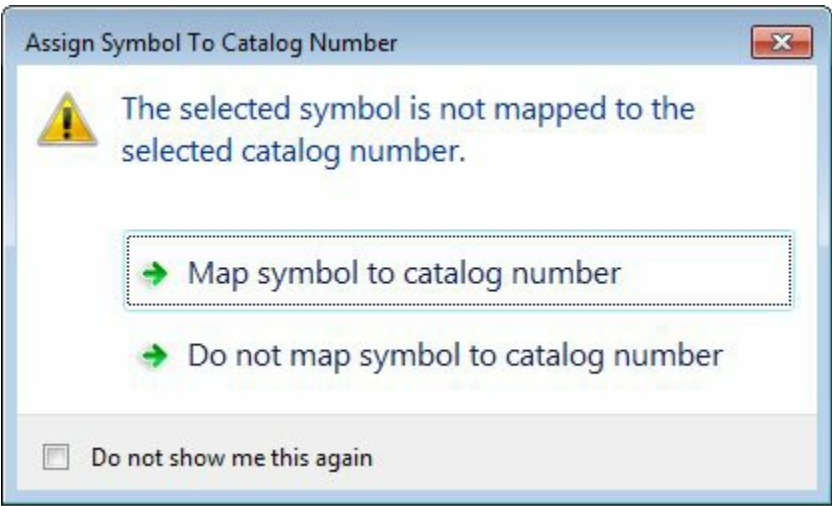

Figure-68. Assign Symbol To Catalog Number dialog box
- On doing so, the **Assign Symbol To Catalog Number** dialog box will be displayed; refer to Figure-68.